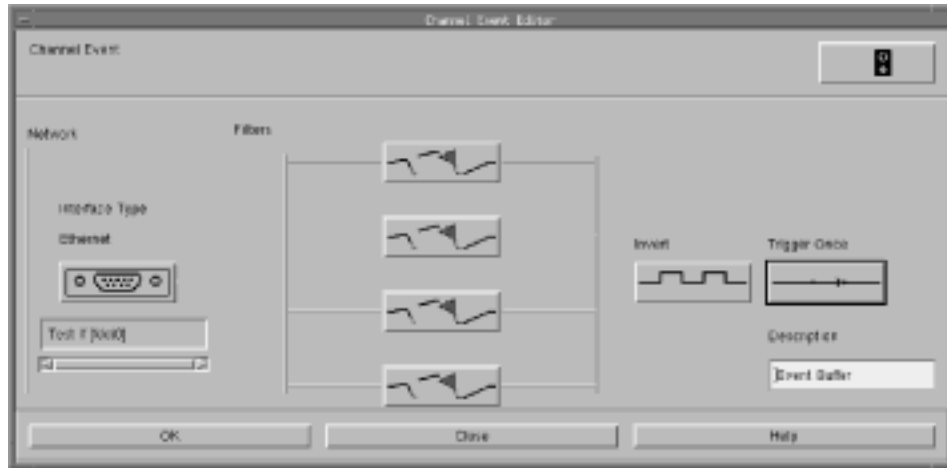

Figure 54. Channel Event Editor Dialog Box
3. Click **Add Capture Event** to open the Channel Event Editor dialog box (Figure 54 on page 111).